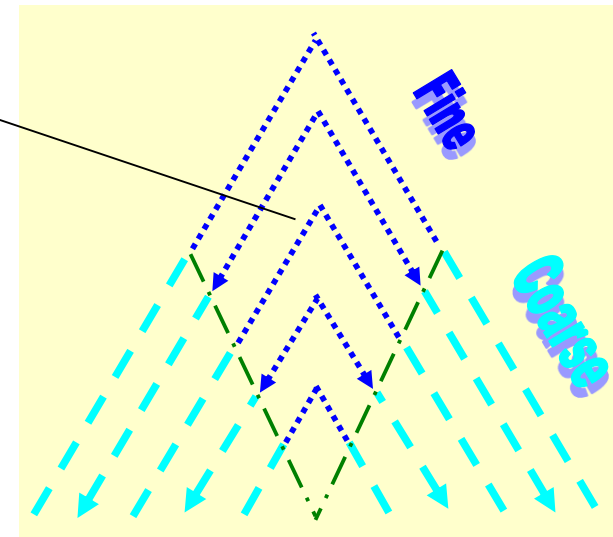

Figure 3
- ③ As the pile grows in size, the fines continue to accumulate at the center of the pile, in the form of an inverted cone. (See Fig. 3)